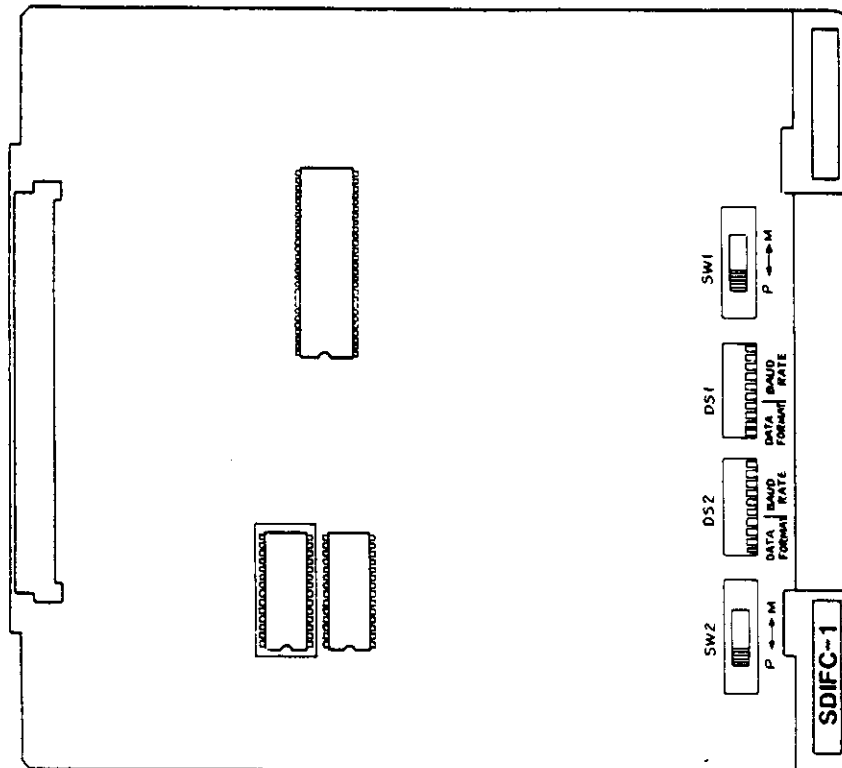

FIGURE A-8 SDIFC-1 CARD
3.04 The SDIFC-1 card, when used with the CPU-HW-1 card, can control its two channels for different communication purposes simultaneously and independently. The card can be used with the CPUHW card, however only channel one can be activated. Refer to Figure A-8.